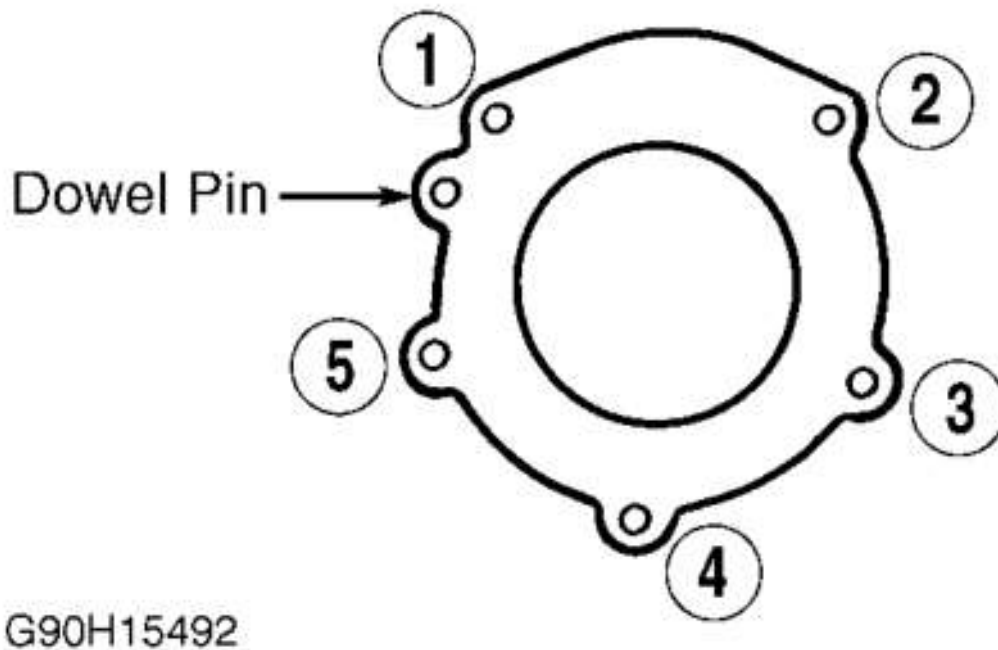

Fig. 4: Transfer Case-To-Extension Housing Tightening Sequence (Borg-Warner 1354)
1. Clean gasket surfaces and install new transfer case-to-extension housing gasket. To complete installation, reverse removal procedure. Tighten transfer case-to-extension housing bolts in sequence. See **Fig. 4**.
(1) Tighten in sequence. See Fig. 4 .